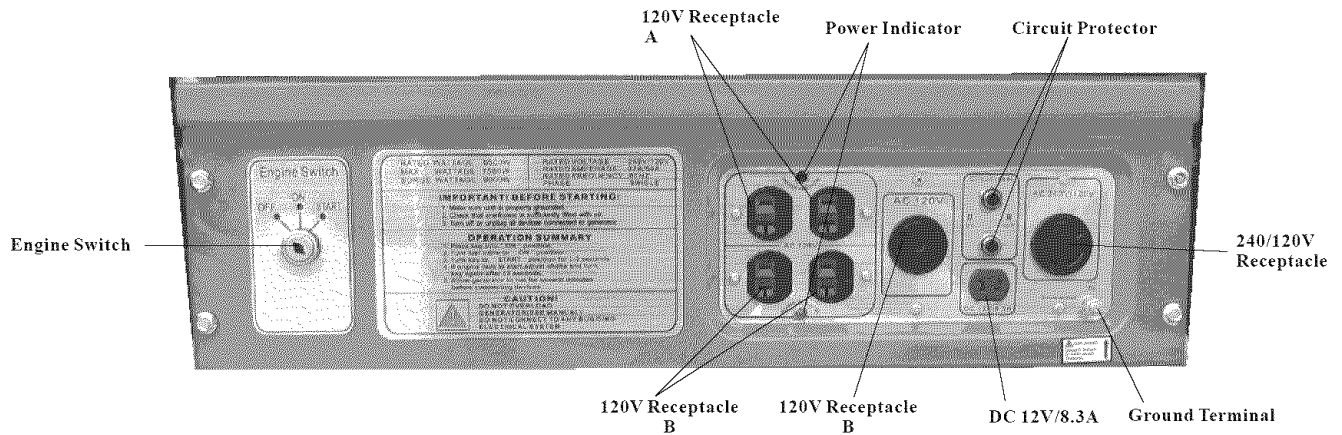

Figure 12- Receptacles available on the generator
1. Plug in each electrical device with the device turned off. **NOTE:** Be sure to attach appliances to the correct receptacle (outlet). Connect standard 120 Volt, single phase, 60 Hz loads **only** to the 120 Volt receptacles. Connect 240/120 Volt, single phase, 60Hz loads with a NEMA L14-30 plug **only** to the 240/120 Volt receptacle See Figure 12 for a depiction of each of these receptacles.